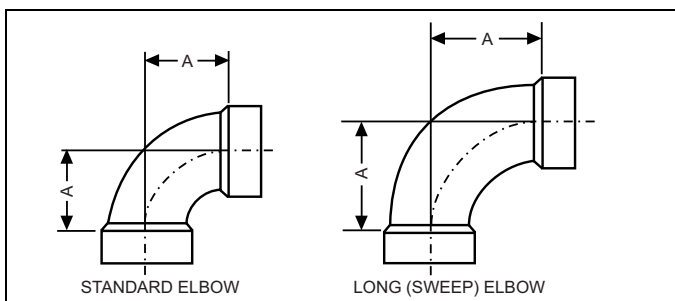

FIGURE 30: Dimensions
1. Drain, waste, and vent (DWV) elbows with a long radius (sweep) are recommended. Standard DWV elbows may be used, but since they have a longer equivalent length, they will reduce the total length of pipe that will be allowed. Short radius (plumbing or pressure) elbows are not allowed for venting. The standard dimensions of the acceptable elbows are shown in Figure 30.
Elbow	“A” Dimension (Illustrated in Figure 30)